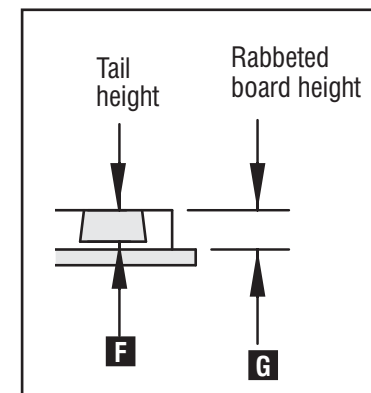

Fig. G7
**NOTE:** Remember that the tail height (F) Fig. G7 (or router bit depth) can't be greater than the height of the rabbet (G).